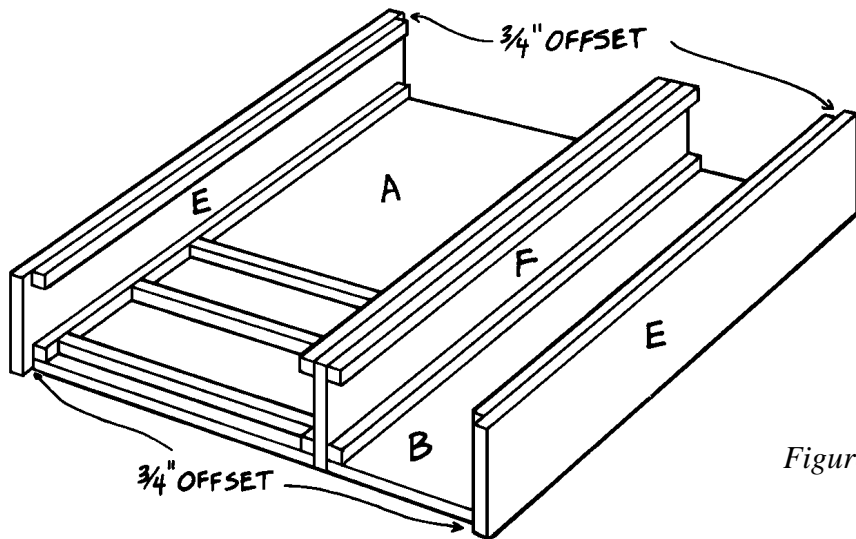

Figure 4
7. Place the inner divider (F) along the edge of the wide back assembly, facing its offset inner vertical support (C) away from the wide back (A), as shown in *Figure 4*. Glue the inner divider (F) and wide back assembly together. Then insert 2" screws at an angle through the bottom  $\frac{3}{4}$ " wide offset on the inner divider (F) and into the inner vertical support (C) that is attached to the wide back (A). Space the screws about 4" apart.
8. Fit the narrow back (B) underneath the offset inner vertical support (C) on the inner divider (F), as shown in *Figure 4*. Glue the narrow back in place and insert 1-1/4" screws, spaced about 4" apart through the inner vertical support (C) on the inner divider (F) and into the narrow back (B).
9. Center one side (E) on the wide back (A), leaving a  $\frac{3}{4}$ " gap at each end, as shown in *Figure 4*. Glue the side (E) in place and insert screws, spaced about 4" apart, through the side (E) to attach it alternately to both the inner vertical support (C) and to the edge of the wide back (A). Use 2" screws to attach it to the wide back (A) and 1-1/4" screws to attach it to the inner vertical support (C).
- Center the remaining side (E) along the edge of the narrow back (B), leaving a  $\frac{3}{4}$ " gap at each end, as shown in Figure 4. Glue the side in place and secure with screws, just as you secured the side (E) in Step 9.